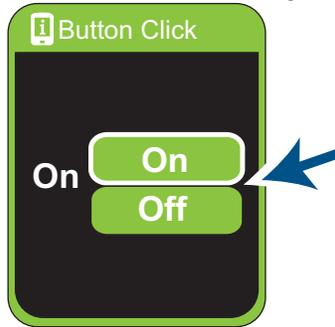

Figure 94. Turning the button click on or off
4. Tap On or Off to turn the button click on or off (Figure 94).